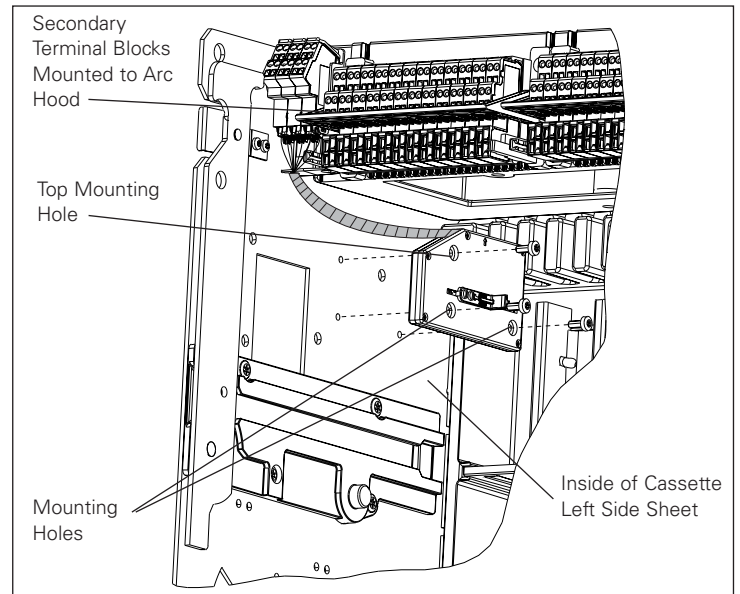
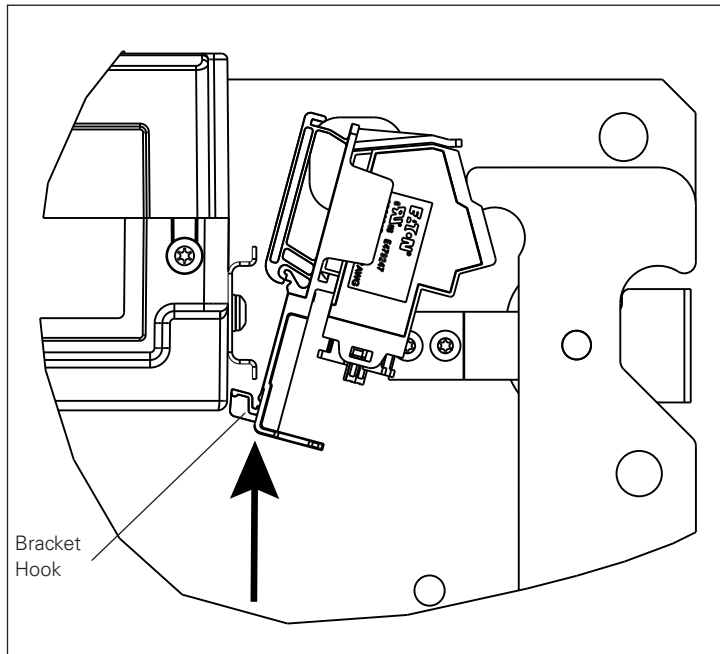

Figure 7. Steps 1 Through 3.
Figure 8. Step 4.
Step 2: Position the cell switch assembly (A) on the inside of the cassette's side sheet so the three mounting holes match up with the switch assembly mounting holes. Confirm the arrow at the top of the cell switch cases are pointing up and the arrow on the actuator is pointing toward the front of the cassette.
Step 3: Insert the 12 mm TORX head type mounting screw (E) supplied with the kit into the top mounting hole first. Next insert the remaining 12 mm TORX head type mounting screws. Hand tighten to a maximum torque of 25 in.-lbs. (2.8 Nm). Move the actuator front to back to ensure that the slider is free.
Step 4: The terminal block mounting bracket is mounted on the cassette DIN rail next to the secondary terminal blocks assembled to the arc hood (see Figure 7). This is accomplished by engaging the bottom hook of the bracket onto the lower portion of the DIN rail and then rotating the top portion of the bracket toward the arc hood until it snaps on (see Figures 8, 9, and 10).